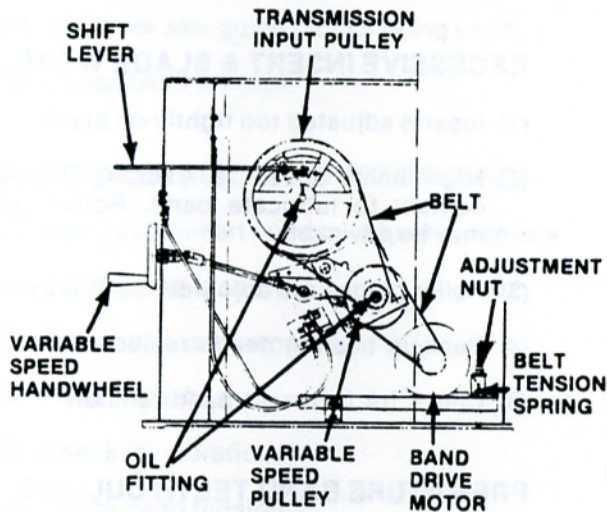

FIG. 19. ADJUSTING DRIVE MOTOR BRACKET SPRING.
- (1) Belts driving the variable pulley and input sheave will stretch slightly after initial use. This stretch is automatically taken up by drive motor counter-balancing weight on its mounting hinge.
- (2) Lift drive motor and block it in place before replacing belts. Then slip old belts from their pulleys and install new ones. See Fig. 19.
- (1) Drive motor "hopping", or climbing on its belt, is controlled by adjusting the motor bracket spring.
- (2) Turn jam nuts until the spring will just clear the motor plate when at its highest position during drive motor operation. Refer to Fig. 19.